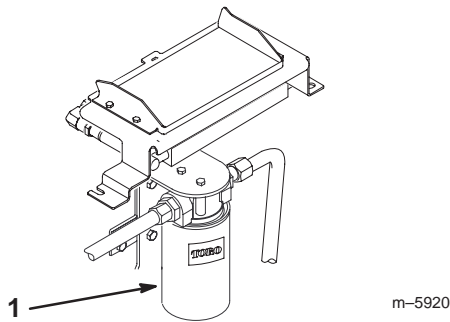

Figure 44
5. Place a drain pan under the filter (Fig. 44).
6. Remove the old filter (Fig. 44) and wipe the surface of the filter adapter gasket clean.
8. Install the replacement hydraulic filter onto the filter adapter (Fig. 44). Tighten it clockwise until the rubber gasket contacts the filter adapter, then tighten the filter an additional 3/4 turn.